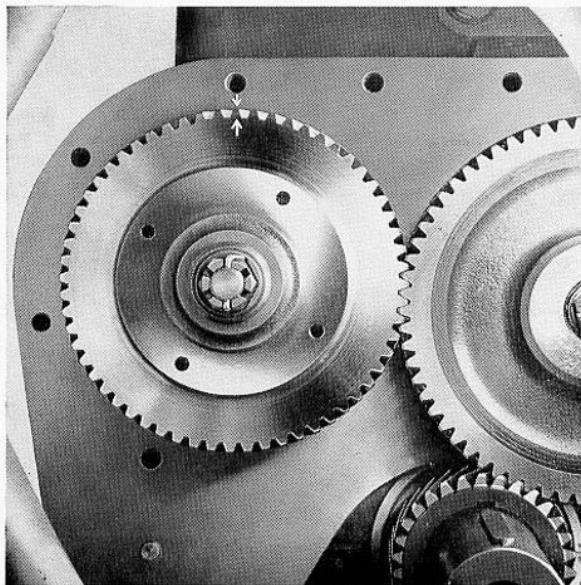

FIG. 4. CAMSHAFT TIMING MARKS
13. At this stage, check the camshaft end float with a clock gauge, see **Data**. If excessive, the thrust washer (7) requires renewal.
14. Remove the auxiliary equipment coupling gear (3) from the camshaft timing gear when fitted, and the nut and washer securing the timing gear to the camshaft.
15. Withdraw the timing gear with a suitable extractor (Albion Pt. No. EQP/320/53) taking care to note the position of the timing mark on the gear in relation to the mark on the timing back plate when No. 6 piston is on T.D.C. of the firing stroke (Fig. 4).
3. Enter the timing gear (2) on to the camshaft, and turn the camshaft so that, on tapping the gear into full engagement with the intermediate gear (17), the arrows on the rim of the timing gear and on the timing backplate are in line (Fig. 4), corresponding with T.D.C. of the firing stroke of No. 6 cylinder, in which position the engine was set before removal of the crankshaft. Refit the centre retaining nut, washer and split pin.